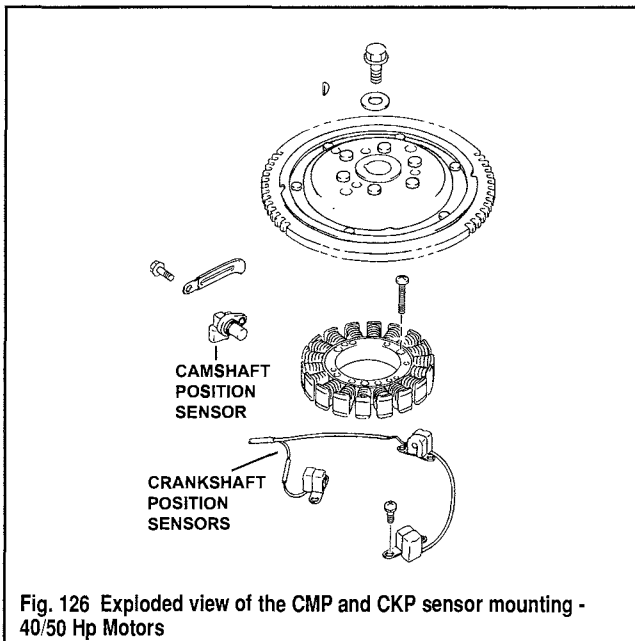

Fig. 126 Exploded view of the CMP and CKP sensor mounting - 40/50 Hp Motors
◆ **See Figures 126 and 127**
- ◆ See Figures 126 and 127
- ◆ See Figure 126
#### ◆ See Figures 126 and 127